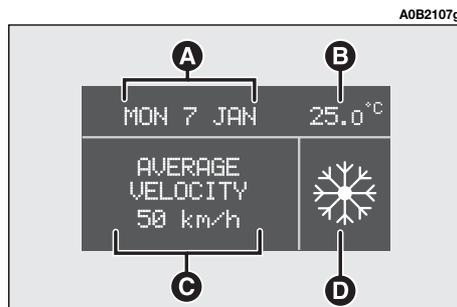

fig. 81
- Date (**A-fig. 81**)
- Outside temperature (**B-fig. 81**)
- Last item recalled from the Trip computer (e.g. Average velocity **C-fig. 81**) or engine oil temperature
- Warning message display with respective symbols (e.g. icy roads **D-fig. 81**).